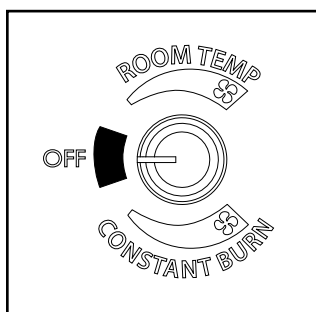

Figure 4.2
1. A room sensor is required for proper operation of this appliance in “Room Temp” mode. At this time, fill the hopper with pellets, ensure the control is set to “OFF”. Figure 4.2. Plug the power cord into a properly grounded, nearby outlet.